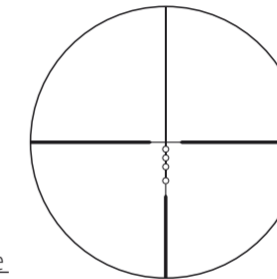

Fig. 3-1
(1) Focusing
- 1 Look through the eyepiece with your eye positioned about 10 cm (4 in) away from the eyepiece to see the BDC 150 reticle (Fig 3-1) depending on your purchased product.